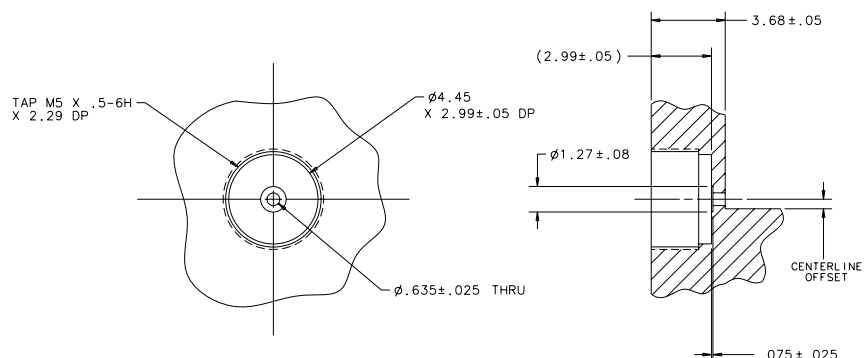

Figure 2. Machining Dimensions for V116F Mounting Hole
Machining dimensions for required mounting hole are provided in Figure 2.
- The recommended mounting hole information is given in Figure 2.